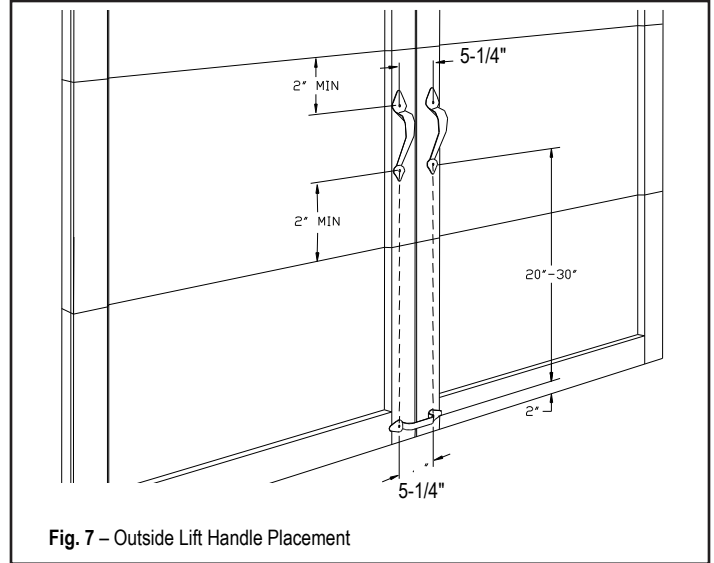

Fig. 7 – Outside Lift Handle Placement
Step 1: Center the horizontal ornamental lift handle horizontally on the outside of the bottom door section. Using the handle as a template, mark the holes to be drilled. The holes must be located exactly 2" from the bottom of the section (see Fig. 7).
Step 6: Take the two vertical ornamental handles and position on the 2nd section. Using the handles as a template, mark the holes to be drilled. With the sections stacked, the lower hole on each vertical handle must lie between 20" and 30" vertically from the holes on the bottom handle. The holes on each vertical handle should be centered 5-1/2" horizontally from each other. The holes on both vertical handles should line exactly with the holes on the bottom horizontal handle. No hole may be closer than 2" to the top or bottom of the section (see Fig. 7).